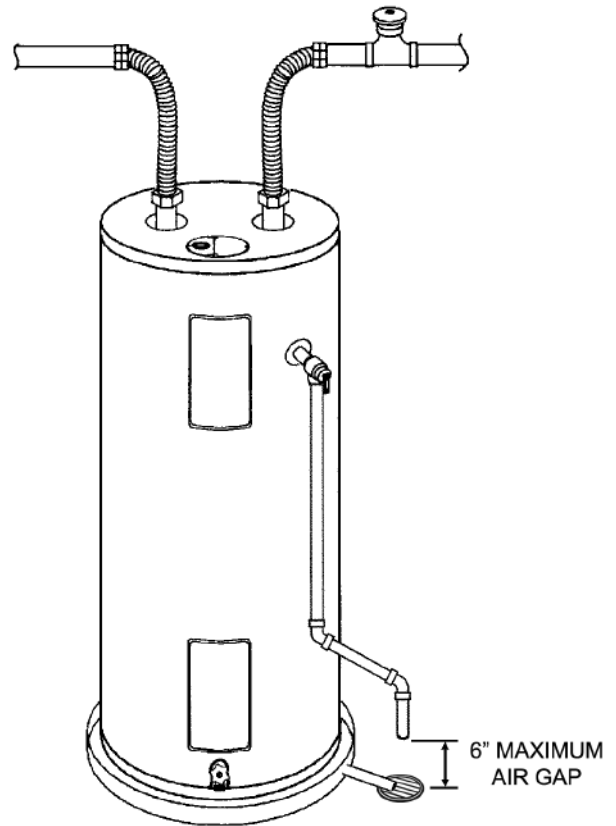

FIGURE 6.
1. Position the water heater so that the existing piping and electrical hookup will require the shortest distance between connections. Make sure that you are able to reach the drain valve and all access panels when the water heater is in place. See Figure 6. This will make it easy to service the water heater. The water heater must be level before you begin the piping.